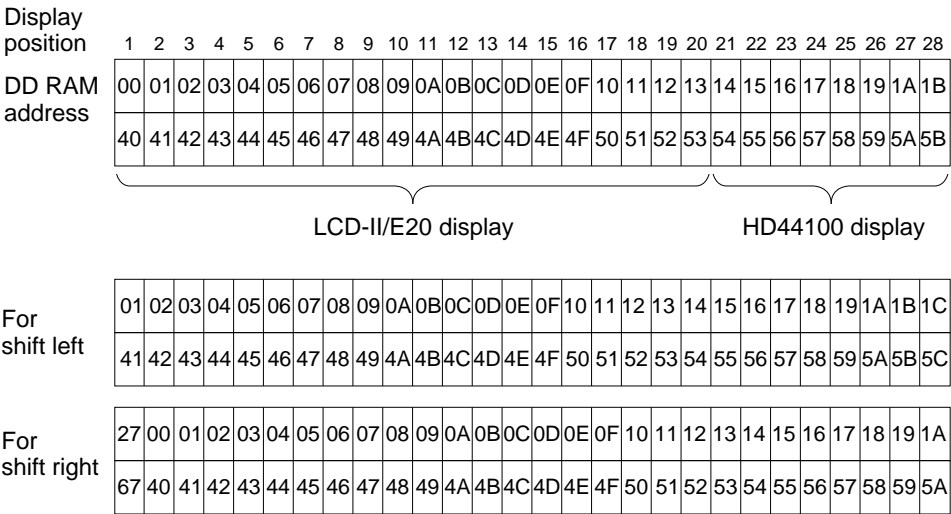

Figure 8 2-Line by 28-Character Display Example
- Case 2: For a 28-character × 2-line display, the HD66702 can be extended using one HD44100. See figure 8.
When display shift operation is performed, the DD RAM address shifts. See figure 8.